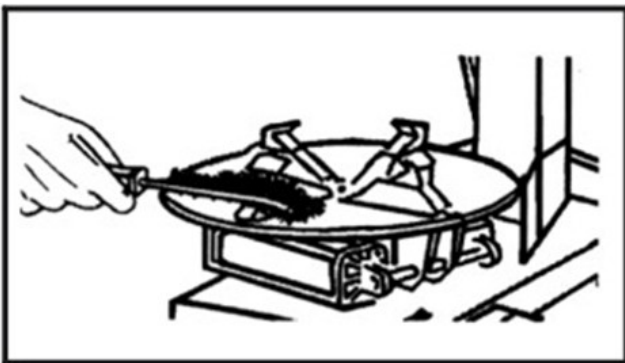

Fig. 32
- Clean and lubricate all the moving parts of the turntable. (Fig. 32)